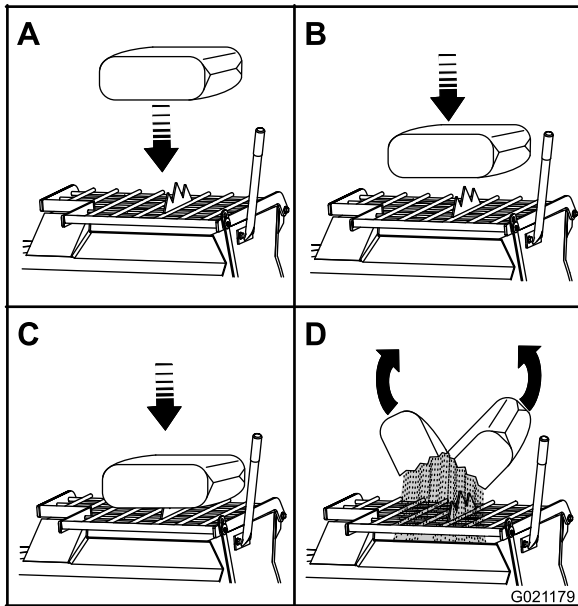

Figure 33
**Note:** You can open bags of cement, plaster, and binding materials by lowering the bag onto the bag splitter (Figure 33).